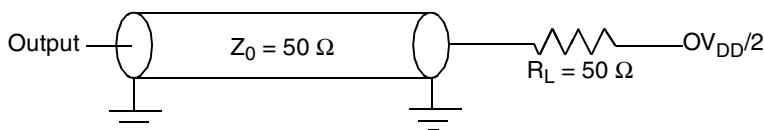

Figure 21. Local Bus C Test Load
Figure 21 provides the AC test load for the local bus.
1. All outputs are measured from the midpoint voltage of the falling/rising edge of t_{CLK} to the midpoint of the signal in question. The output timings are measured at the pins. All output timings assume a purely resistive 50-Ω load (see Figure 21). Time-of-flight delays must be added for trace lengths, vias, and connectors in the system.
2. The symbols used for timing specifications herein follow the pattern of $t_{(first\ two\ letters\ of\ functional\ block)(signal)(state)\ (reference)(state)}$ for inputs and $t_{(first\ two\ letters\ of\ functional\ block)(reference)(state)(signal)(state)}$ for outputs. For example, t_{JTDVKH} symbolizes JTAG device timing (JT) with respect to the time data input signals (D) reaching the valid state (V) relative to the t_{JTG} clock reference (K) going to the high (H) state or setup time. Also, t_{JTDXKH} symbolizes JTAG timing (JT) with respect to the time data input signals (D) went invalid (X) relative to the t_{JTG} clock reference (K) going to the high (H) state. Note that, in general, the clock reference symbol representation is based on three letters representing the clock of a particular functional. For rise and fall times, the latter convention is used with the appropriate letter: R (rise) or F (fall).